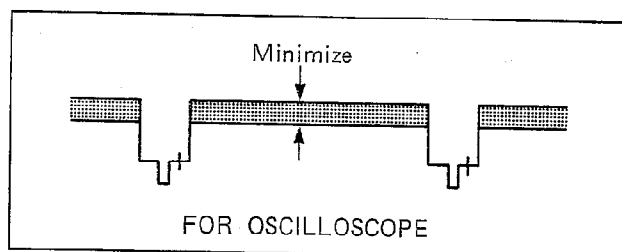

Fig. C17
- (1) Connect the Video output to vectorscope.(or oscilloscope)
- (2) Place the unit to "FADE" by pushing "SHIFT 1" and "D" keys together.
- (3) Push "CMD", "0" and "1" keys.
- (4) Push "ADR", "2" and "C" keys.
- (5) Push "INC" or "DEC" so that waveform become minimized as shown in Fig. C17.